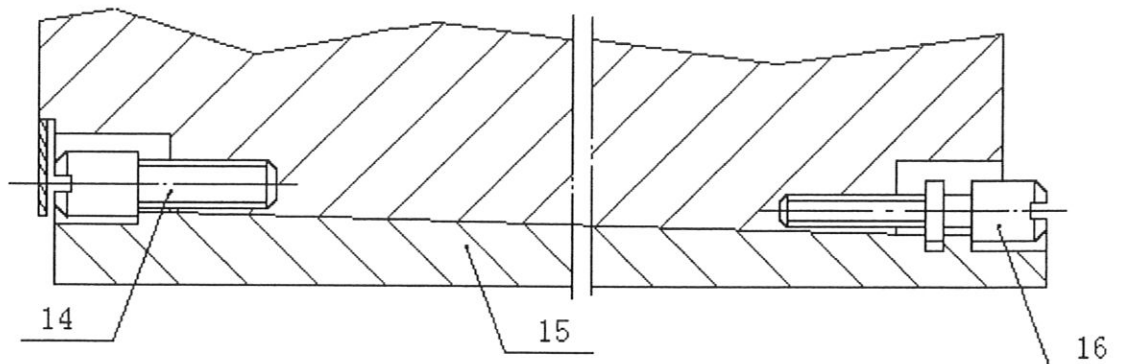

Fig.29 Clearance adjustment between slide and knee guide
7.8 Clearance adjustment between slide and knee guide(see Fig.29)